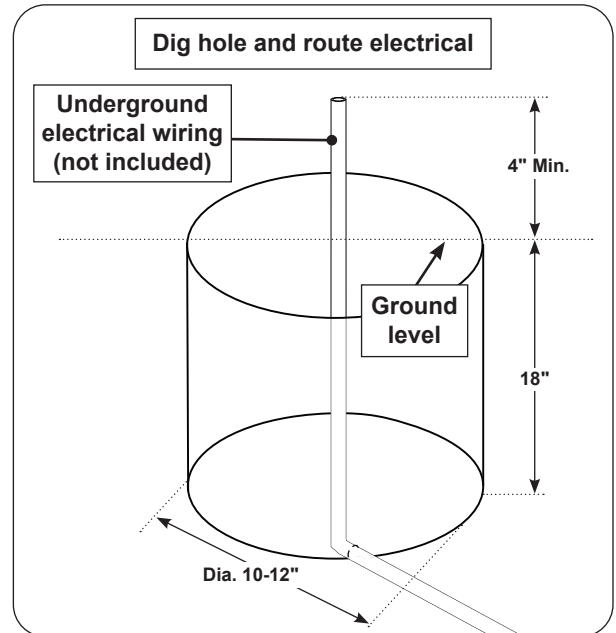

Fig. 5-1 Prepare for in-ground installation
1. Where the electrical wiring is exiting the ground, dig a hole for the post extension approximately 18" deep and 10-12" in diameter at the chosen location. See Fig. 5-1.